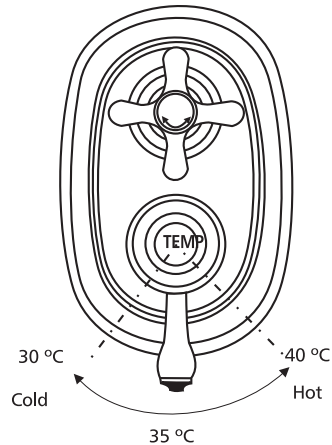

Figure 16
- To increase the temperature, move the handle anticlockwise. See Figure 16